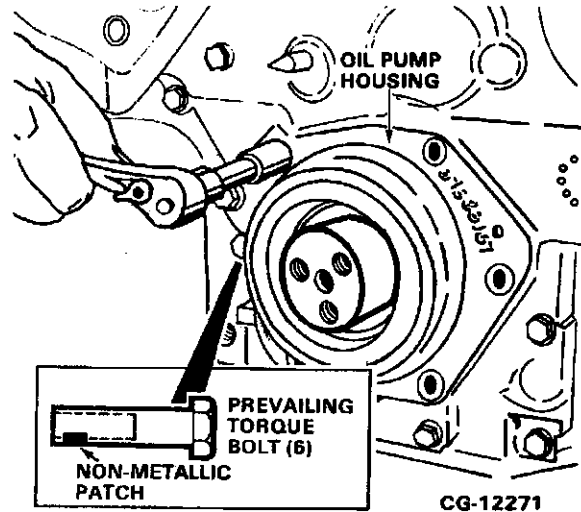

Figure 9.6. Remove Oil Pump Housing Bolts
3. Remove the six oil pump housing retaining bolts and washers as shown in Figure 9.6.